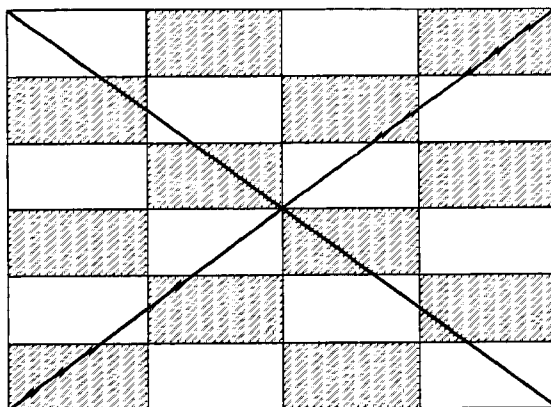

Figure 5-17. Center Portion of Display Test Pattern
2. Compare the test pattern to figure 5-17. Adjust as indicated in table 5-3 using a non-conductive screw driver.